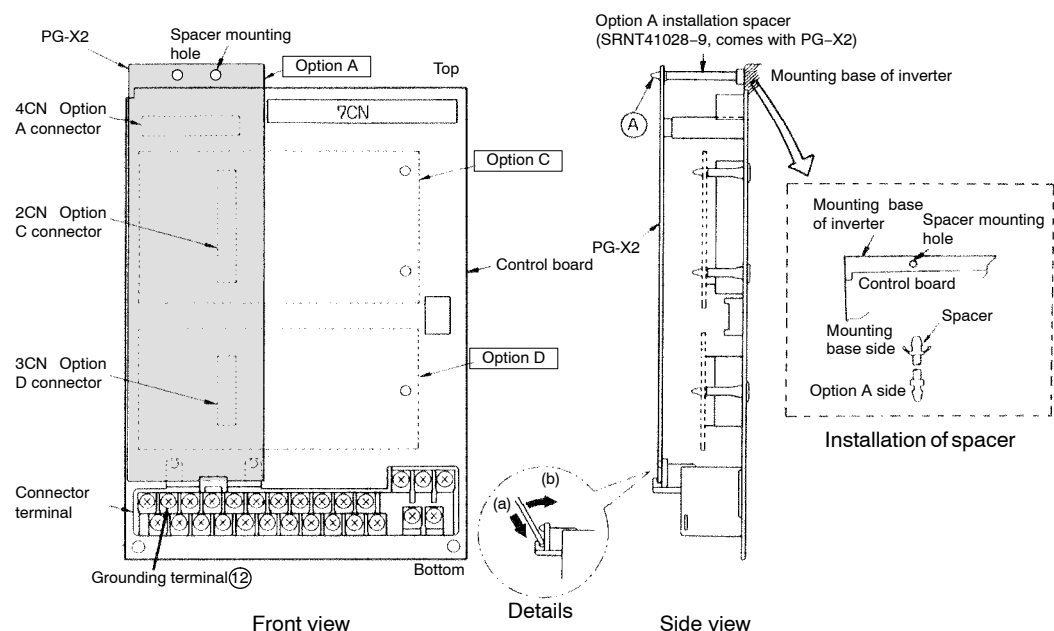

Fig. 3 Installation of PG speed controller card PG-X2
2 Installing to Inverter (See Fig. 3)
- ① Turn OFF the main power and wait for the time specified on the cover of the inverter. Remove the cover and verify that the CHARGE indicator lamp is OFF.
- ② Insert the attached spacer (SRNT41028-9) into the spacer mounting hole in the mounting base of the inverter. (See Fig. 3.)